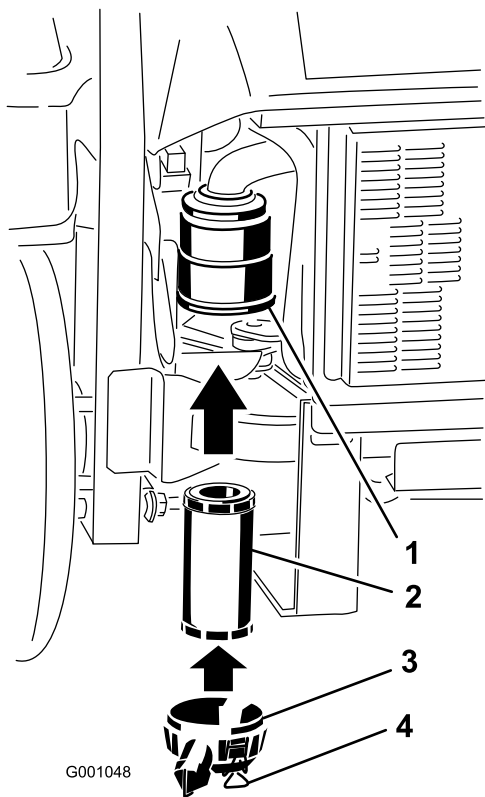

Figure 40
2. Carefully slide the filter into the filter body (Figure 40). Ensure that it is fully seated by pushing on the outer rim of the filter while installing it.
3. Install the air cleaner cover and secure the latches (Figure 40).